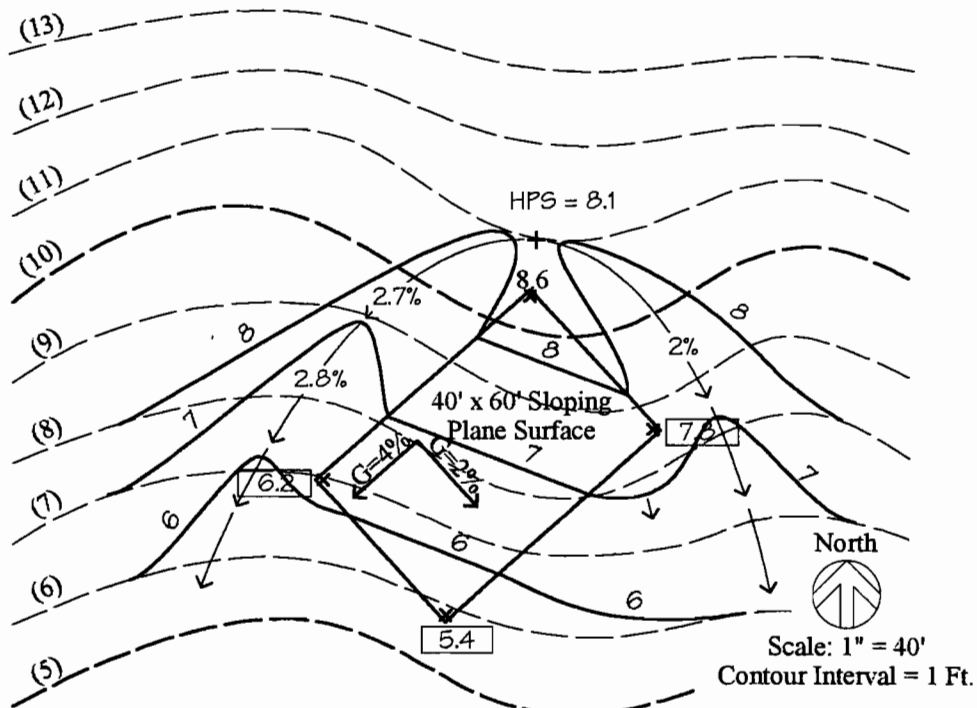

Figure 4-25. Adding Contours 7 and 6
Because the plane surface is sloping (contours 6, 7 and 8 cross it), each of the contours comprising the swale must connect to them as shown in Figure 4-25. Bear in mind that just as in drawing the flowline, there is no one right way to draw the swale contours. As long as the as
- Step 7.** In this step, remaining whole number contours (6 and 7) are drawn as shown in Figure 4-25. The first task in this step is to locate the points along the flowline below contour 8 where the next lower contours are to cross. To save time and simplify the design process, “eye-ball” these contour crossing points. This is perfectly acceptable unless the problem statement explicitly requires a specified grade and/or a straight grade. Nevertheless, there are two points to keep in mind: First, the flow line grade must fall within the prescribed slope range, which is typically a minimum slope of 2% and a maximum slope of 10% (verify this with the problem statement), which translates to a spacing range of not greater than 50-feet (2%), to not less than 10-feet (10%). Positioning the points along the flowline where the contours cross is a matter of experience that, with practice, will become second nature. Although in the example the grades between the crossing points were eyeballed as explained above, the actual grades were calculated for informational purposes. As pointed out previously, there is no one correct solution. In this example, the contour crossing points could have been placed closer together, or further apart, without materially changing their effectiveness — or the correctness of the solution. The main requirement is to make sure they fall within the stipulated grade range, and that runoff is carried away from the plane surface. This completes the swale itself. The next step will be to complete the grading at the front and back slope areas, and to number the contour lines.